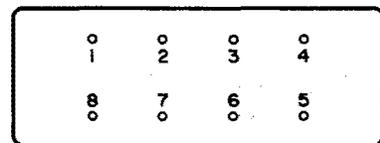

Fig. 78 – Terminal Numbering as Viewed From the Terminal Side — 324-Type Relay
2.84 The contact and winding terminals are numbered in accordance with the circuit diagram printed on the side of the relay cover. As viewed from the terminal side of the relay, the winding and spring terminals are designated as shown in Fig. 78 and 79.